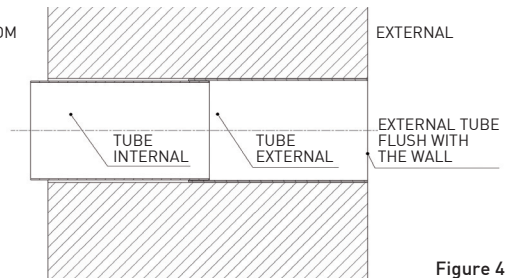

Figure 4
- Insert the telescopic tube making sure that the larger diameter tube is flush with the outer wall (Figure 4).